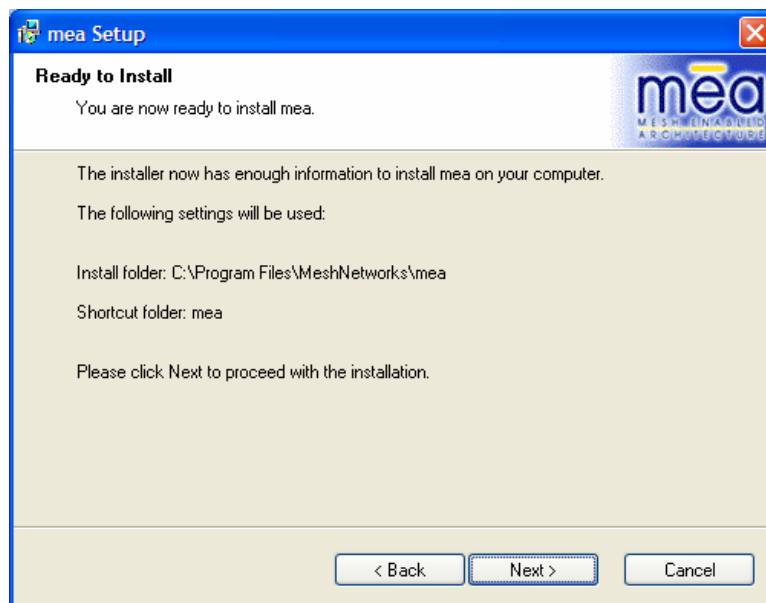

Figure 6. MEA Setup - Ready to Install Dialog
10. The *Ready to Install* dialog box will be displayed as shown in Figure 6. This dialog box displays the Install Folder location and the Shortcut Folder name that will be used to install the MEA software. Click on the **Next** button to proceed with the installation process.